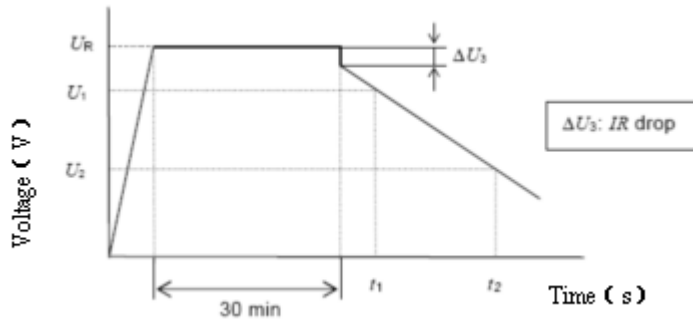

Figure 2 – Voltage characteristic between capacitor terminals
- e) Unless otherwise specified in the individual standards, measure the time t1 and t2 where the voltage between capacitor terminals at the time of discharge reduces from U1 to U2 as shown in Figure 2, and calculate the capacitance value by the following formula: